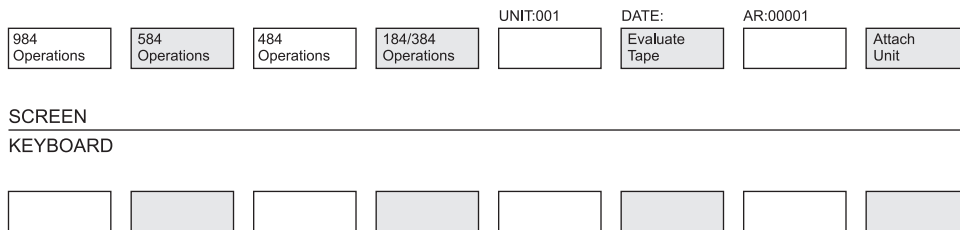

Figure 5-3
- When the <Attach Unit> prompt appears on the software label keys, enter the unit number assigned from the Modbus Plus Data Highway Chart to the PLC on which you are working. See *Figure 5-3*.